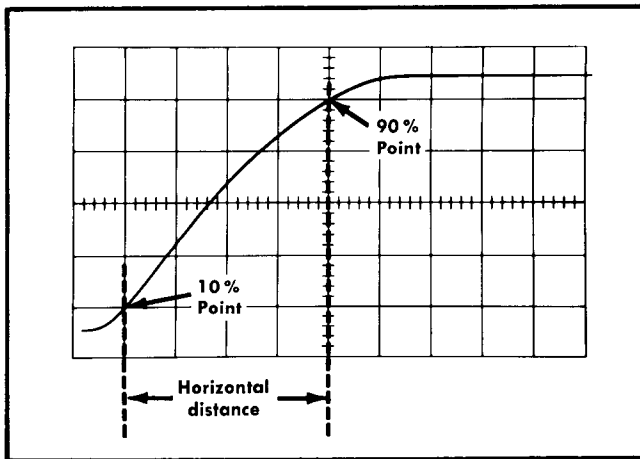

Fig. 2-22. Measuring risetime.
7. Adjust the horizontal POSITION control to move the 10% point of the waveform to the first graticule line. For example, with a five-division display as shown in Fig. 2-22, the 10% point is 0.5 division up from the start of the rising portion.
Example. Assume that the horizontal distance between the 10% and 90% points is four divisions (see Fig. 2-22) and the TIME/DIV switch is set to 1 μ s with the MAG switch